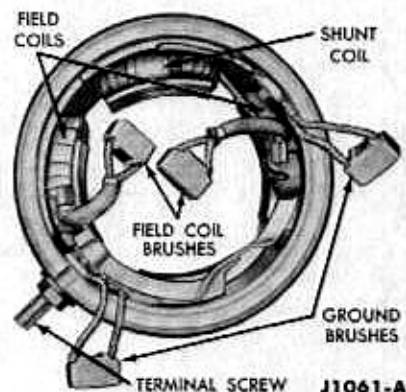

FIG. 16—Field Coil Assembly
2. Position the series field coils with the leads in the terminal screw slot, and the shunt coil as shown in Fig. 16.
5. Position the shunt coil ground lug under the ground brush terminal farthest from the starter terminal (Fig. 16). The other shunt coil lead is soldered to the series field coil lead farthest from the starter terminal.